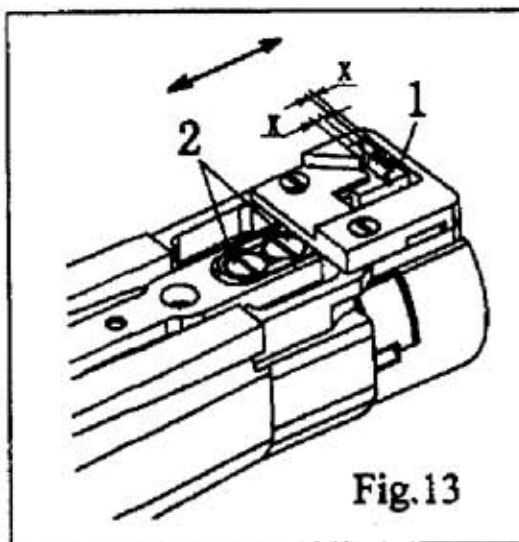

Fig.13
① Positioning the feed dog at an angle to the direction of sewing (Fig.13)